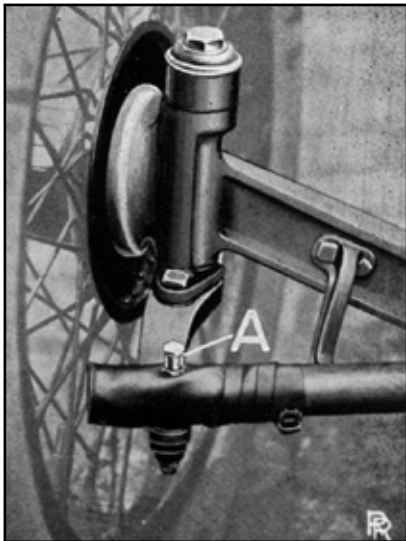

Fig.15 LUBRICATING CROSS STEERING ROD
15. **Cross Steering Rod** cup for gear oil at each end. A in Fig. 15 shows the one on "off" side.